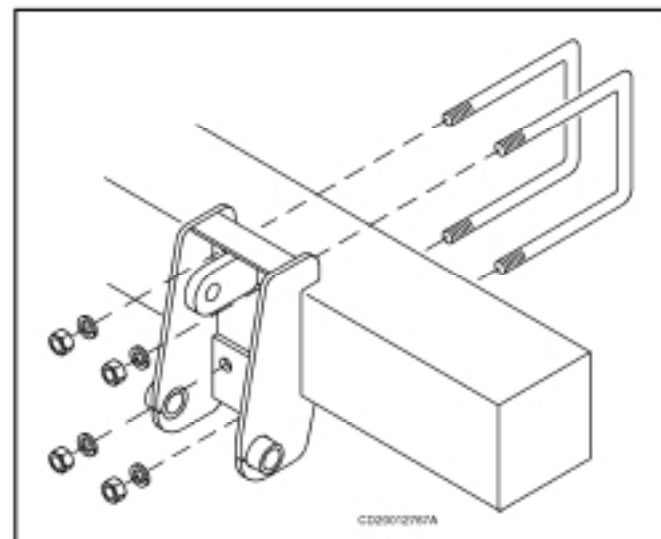

Figure 37 Fastening Strut Mount
1. Fasten strut mount, using two 3/4" U-bolts, lock washers, and hex nuts as shown in Figure 37.